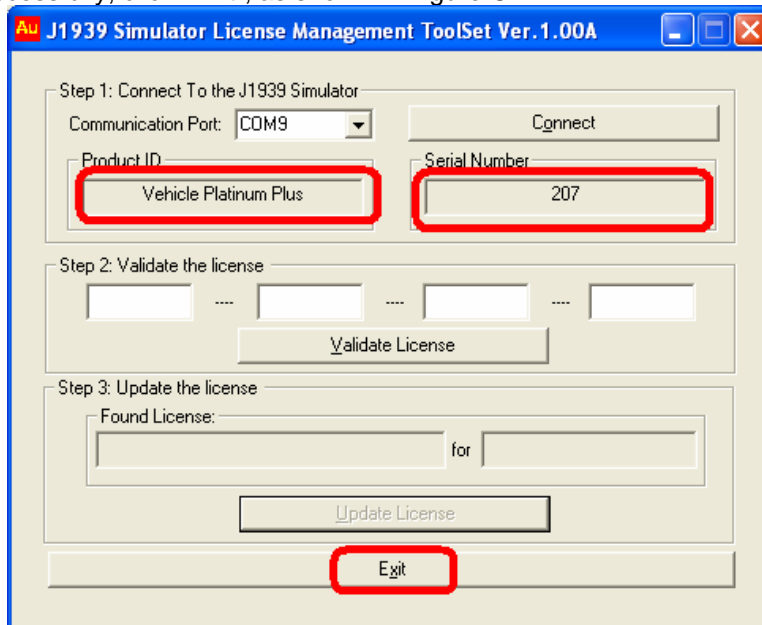

Figure C-14 Product updated to Engine premium successfully
- When it is updated successfully, a beep will be heard. And Au J1939 Simulator License Toolset will show the new license (Engine premium in this demonstration), it means your product has been upgraded to engine premium edition successfully, click "Exit", as shown in Figure C-14.